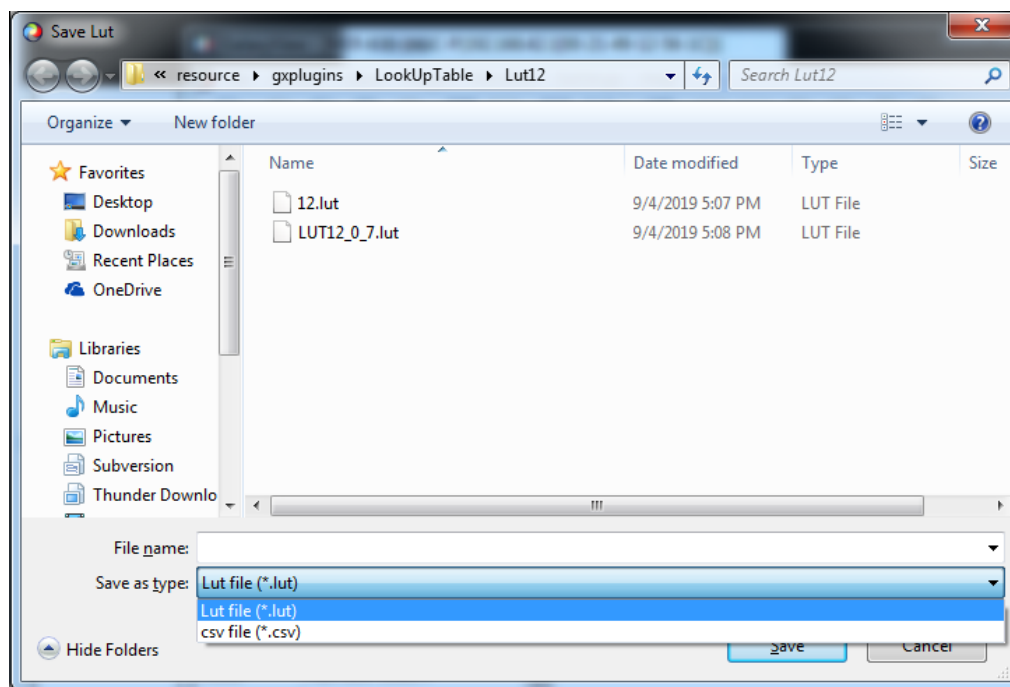

Figure 9-6 Save to file
1. When selecting " Save to File ", the current Lut data can be saved to the file. The saved file contains two formats: Lut and csv, as shown in Figure 9-6: